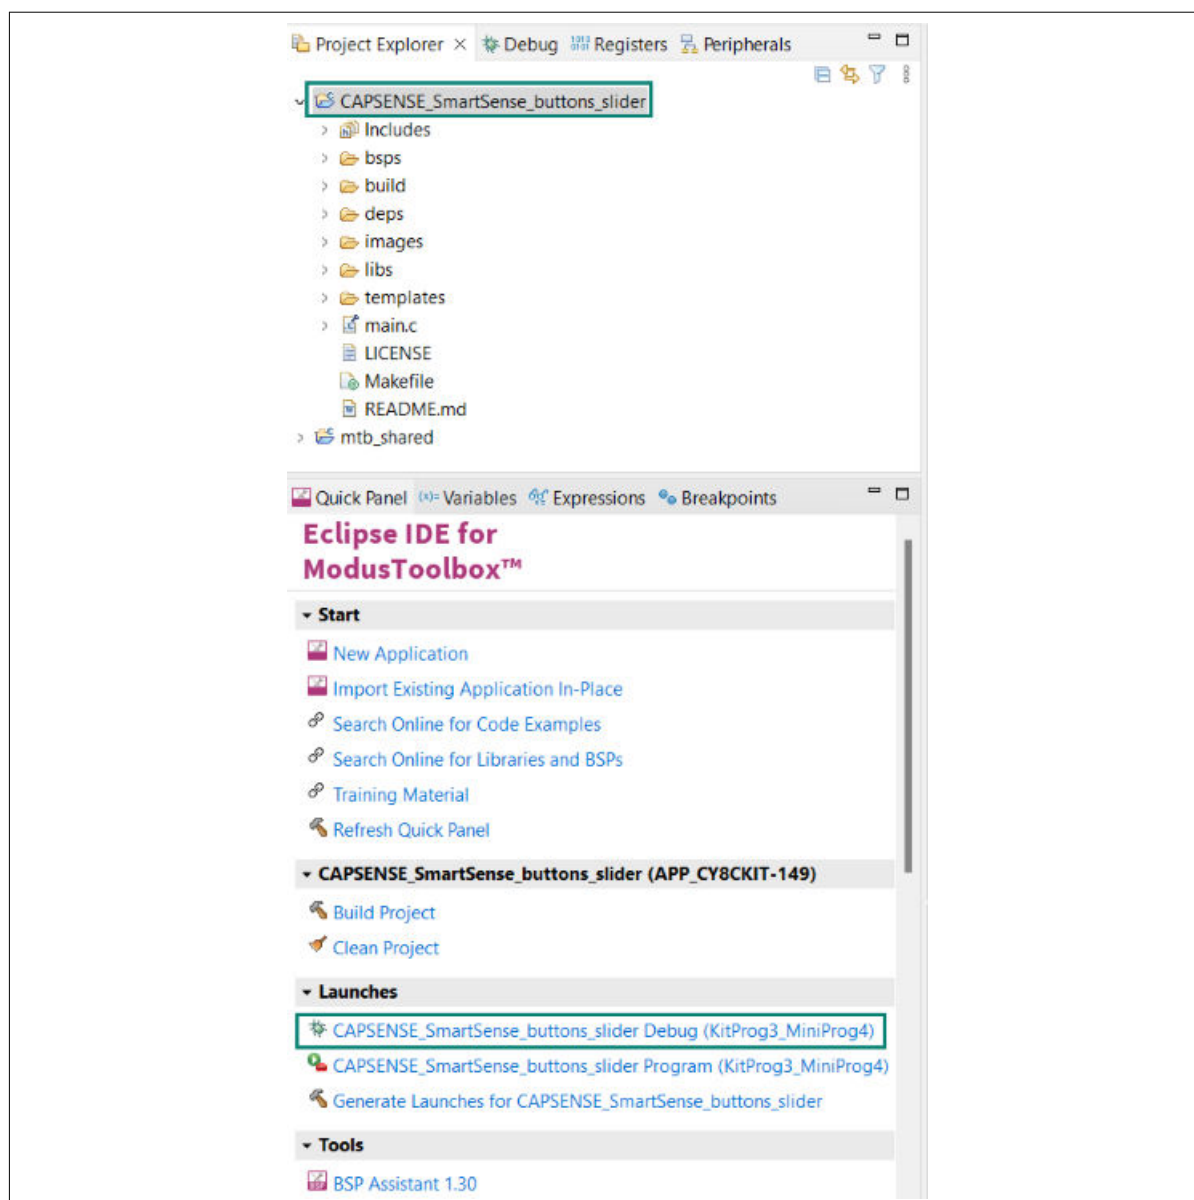

Figure 15 Debugging the code example
- b. In the **Quick Panel**, scroll to the **Launches** section, and click the **<App_Name> Debug (KitProg3_MiniProg4)** configuration, as shown in Figure 15